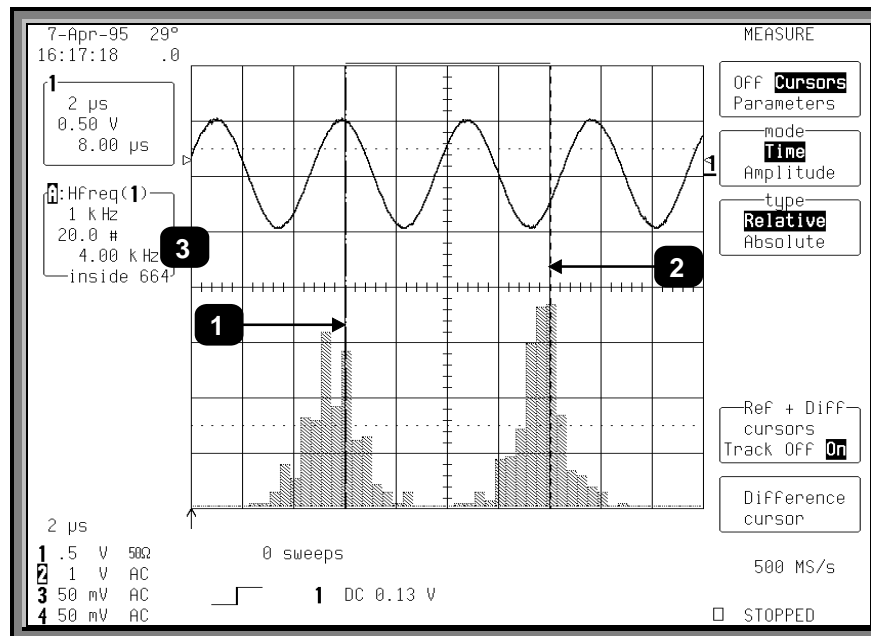

Figure 1.6
Finally, Figure 1.6 shows the use of the measurement cursors (Items ① and ②) in determining the difference in frequency between a bin in the center of each distribution. The value in kHz, in the Displayed Trace Field, is indicated by ③.